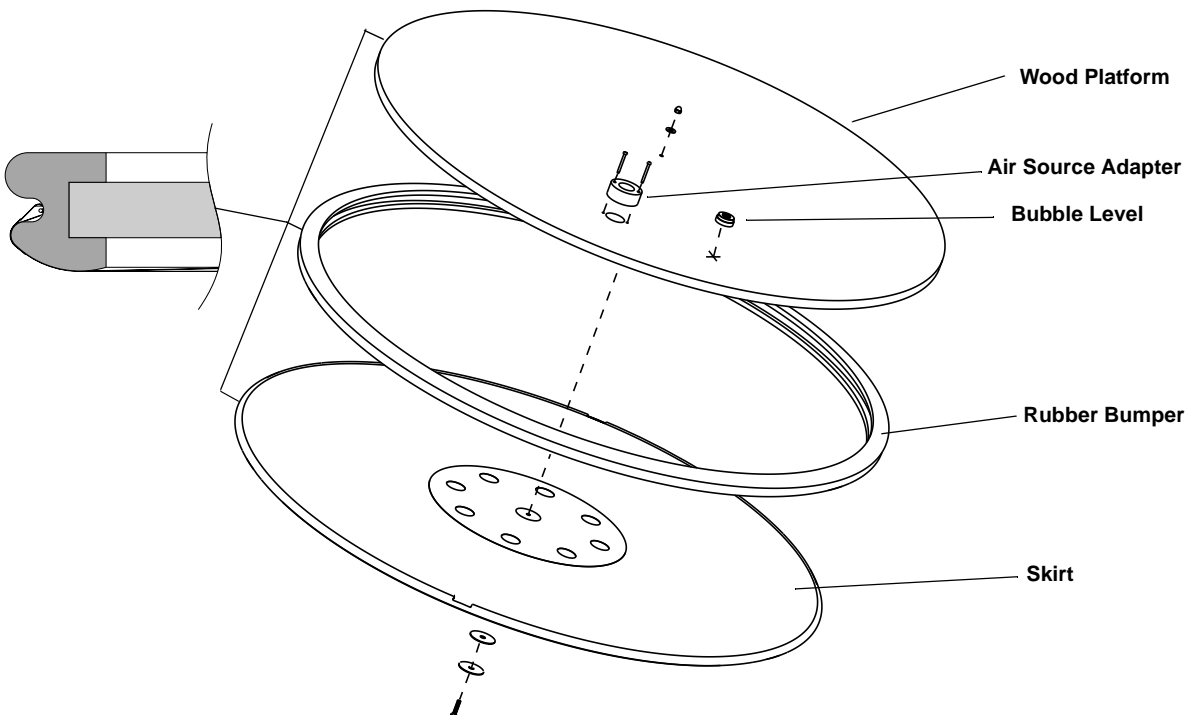

Figure 4. Exploded View
15. Using the included wood screws, attach the air source adapter to the top of the wood platform (See Figure 4).
16. Use glue or double-sided tape to affix the bubble level to the top of the wood platform. Place the level away from the center of the platform, so the rider can view the level easily (See Figure 4)...